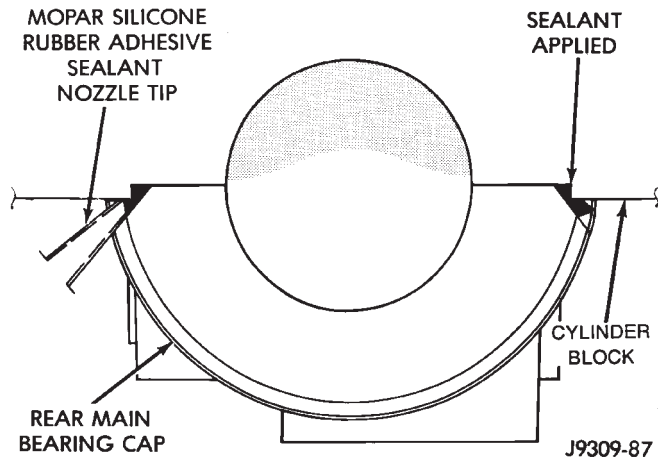

Fig. 46 Apply Sealant to Bearing Cap to Block Joint
- (8) To align the bearing cap, use cap slot, alignment dowel and cap bolts. DO NOT remove excess material after assembly. DO NOT strike rear cap more than 2 times for proper engagement.
- (9) Clean and oil all cap bolts. Install all main bearing caps. Install all cap bolts and alternately tighten to 115 N·m (85 ft. lbs.) torque.
- (10) Install oil pump.
- (11) Apply Mopar Silicone Rubber Adhesive Sealant, or equivalent, at bearing cap to block joint to provide cap to block and oil pan sealing (Fig. 46). Apply enough sealant until a small amount is squeezed out. Withdraw nozzle and wipe excess sealant off the oil pan seal groove.
- (12) Install new front crankshaft oil seal.
- (13) Immediately install the oil pan.
- (6) To align the bearing cap, use cap slot, alignment dowel and cap bolts. DO NOT remove excess material after assembly. DO NOT strike rear cap more than 2 times for proper engagement.
(7) Install the rear main bearing cap with cleaned and oiled cap bolts. Alternately tighten ALL cap bolts to 115 N·m (85 ft. lbs.) torque.
(8) Install oil pump.
(9) Apply Mopar Silicone Rubber Adhesive Sealant, or equivalent, at bearing cap to block joint to provide cap to block and oil pan sealing (Fig. 46). Apply enough sealant until a small amount is squeezed out. Withdraw nozzle and wipe excess sealant off the oil pan seal groove.
(10) Immediately install the oil pan.
(7) Install the rear main bearing cap with cleaned and oiled cap bolts. Alternately tighten the cap bolts to 115 N·m (85 ft. lbs.) torque.